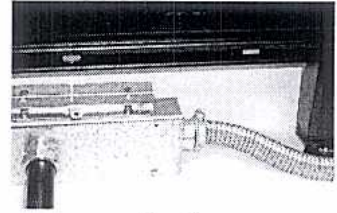

fig 1
2. Line up the 810 NYBF box so the hole in the mounting bracket is below the slot in the horizontal frame member. (see fig 1).